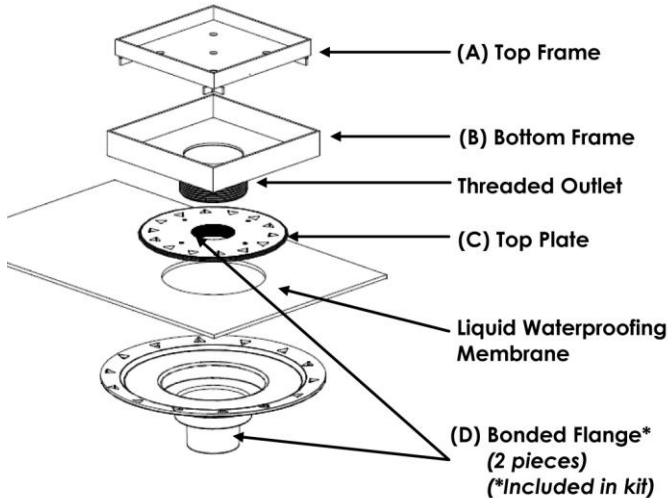
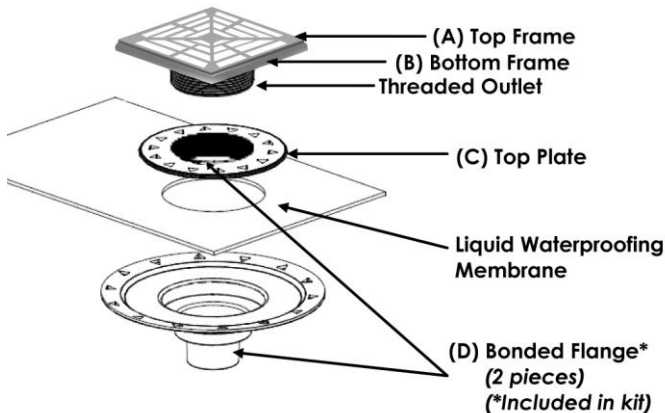

Fig. 1
Fig. 2
Before placing mortar, apply a slurry bond coat made from LATICRETE® 254 Platinum or LATICRETE 4237 Latex Additive mixed with LATICRETE 211 Powder. While the slurry bond coat is wet, spread LATICRETE 3701 Fortified Mortar Bed and compact well. Mortar beds shall be 3/4" minimum to 2" (50 mm) maximum. Mortar beds in excess of 2" (50 mm) thick shall be detailed by the architect per TCNA F112-11. Prior to installing the LATICRETE Hydro Ban Bonding Flange Drain make sure the backer board has been installed on the walls following the manufacturer's recommendations. The LATICRETE Hydro Ban Bonding Flange Drain should be installed per TCNA B422. Before installing the LATICRETE Bonding Flange Drains make sure the opening in the floor where the waste line connection is made is 4-1/4" (108 mm) in diameter. The lip of the LATICRETE Hydro Ban Bonding Flange Drain should sit approximately 1-1/4" (32 mm) above the substrate. Dry fit the LATICRETE Hydro Ban Bonding Flange Drain through the hole and to the waste line below. When connecting to a 2" (50 mm) waste line which is already in place the top of the waste line should be 1-3/4" (44 mm) below the surface of the substrate. Make sure that the LATICRETE Hydro Ban Bonding Flange Drain is PVC when connecting to a PVC waste line or ABS when connecting to an ABS waste line. Cement the LATICRETE Hydro Ban Bonding Flange Drain in place using PVC solvent and cement for PVC and ABS solvent and Cement for ABS LATICRETE Hydro Ban Bonding Flange Drain and waste line connections. Make sure that the LATICRETE Hydro Ban Bonding Flange is level before the PVC or ABS cement has cured. DO NOT MIX materials, this will cause a failure in the pipe weld. When installed over EGP the bonding flange (D) Fig 1 and 2 can be screwed to the substrate using stainless steel or zinc coated 3" (76 mm) drywall screws. There are four countersunk holes around the perimeter of the bonding flange (D) for this purpose. The installation is now ready to accept the mortar bed.
Installing LATICRETE Hydro Ban® and Tile (Fig. 1 and Fig. 2)
- Tile walls and floors; when thin-set and tile are ready to be installed around the LATICRETE Hydro Ban Bonding Flange Drain comb thin-set onto bonding flange (D) and set top plate (C) onto the bonding flange. Thin-set should ooze through the triangle voids in the top plate (C). Scrape any excess thin-set from the top plate (C) using a trowel. As you tile closer to the top plate insert the threaded outlet of the top and bottom frame (A and B) into the top plate (C). Adjust the top and bottom frame by screwing in the threaded outlet to the top plate (C) to allow for height adjustment (fig. 2). Thin-set over the top plate (C) and install tile.
- If using the tile-in grate with the LATICRETE® Hydro Ban Bonding Flange Drain, remove top frame (A) and prime surface with two coats of LATICRETE Hydro Ban® prior to installing tile within the frame using a LATICRETE polymer fortified thin-set. Make sure that the stainless steel top frame (A) is free of grease, dirt or finger prints prior to applying the LATICRETE Hydro Ban.